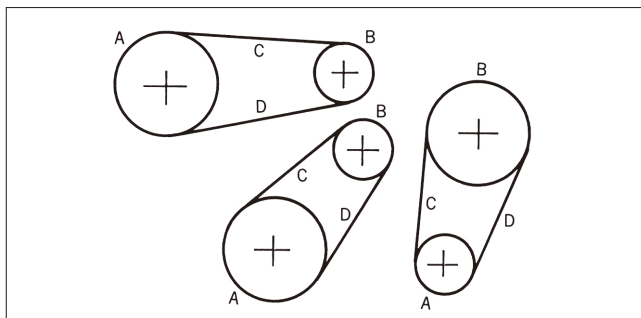

Fig. 14. Connecting an endless roller chain
- 1) Wrap the roller chain around the sprocket so that the inner links on both ends are engaged with the sprocket teeth in either the A or B position. (Fig. 14) With large roller chains, pull the ends of the roller chains with wire to prevent the chain from falling off.